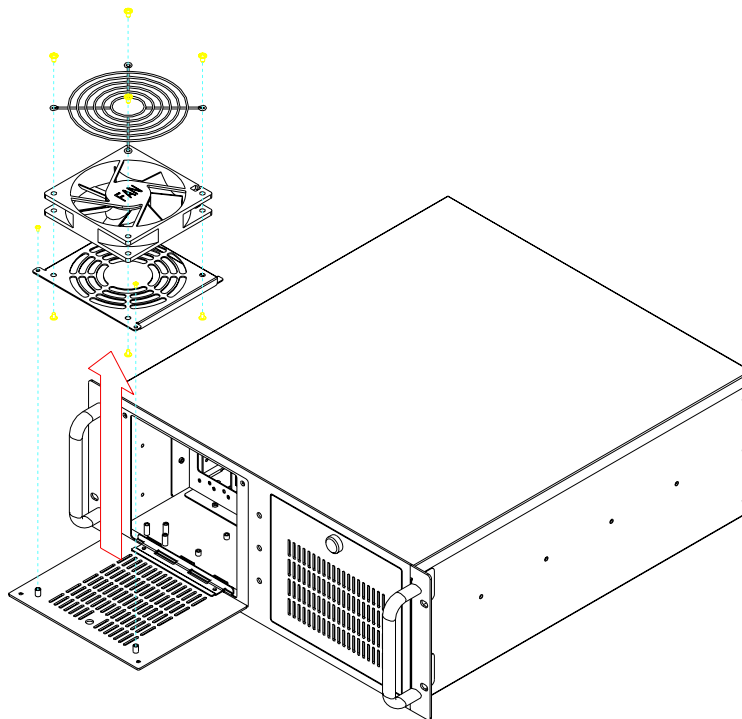

Figure 3.6 Replacing the cooling fan for IPC-610-L/IPC-611
4. Loosen four screws on the fan bracket and the four screws on the fan guard and replace it with a new one. (see Figure 3.6)